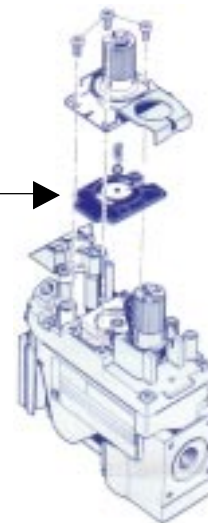

Figure 4.
11. Change the variable regulator on the valve (Hi/Lo knob). Using a Torx t-20 screwdriver, remove the three specialty screws from the front of the valve regulator. See Figure 4.
12. Remove the regulator tower and the gasket. **BE SURE TO REMOVE THE BLACK RUBBER GASKETS FROM THE VALVE!!!** See Figure 4.